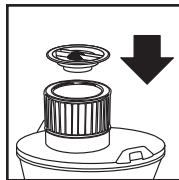

FIGURE 21
34. Place filter retainer into the top of the cartridge filter, hold the tank cover with one hand, turn the handle on the filter retainer clockwise to tighten, locking the filter into place. **FIGURE 21, 22.**